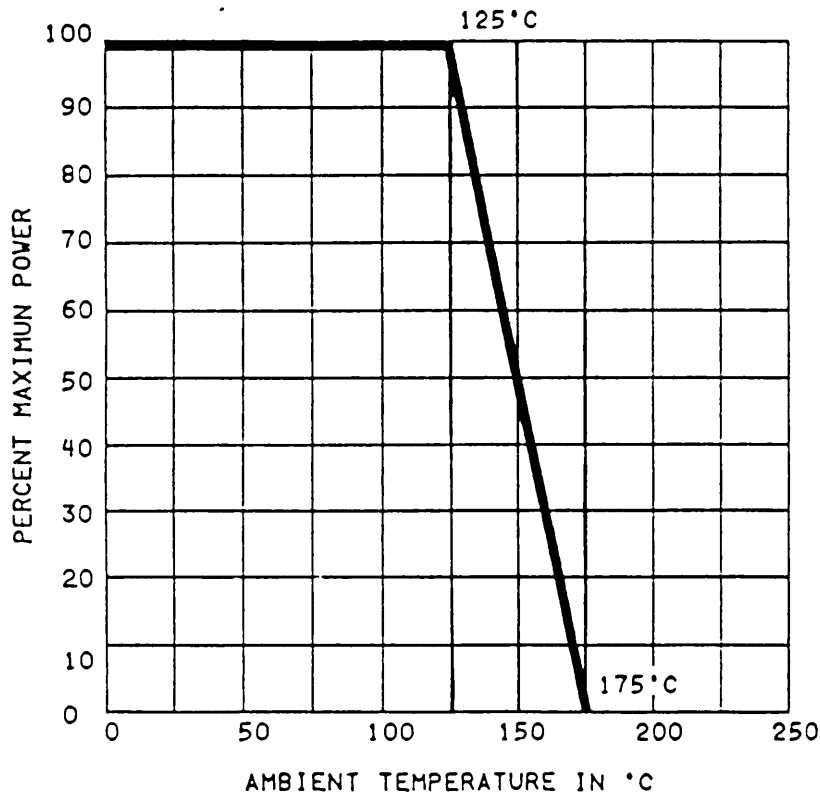

FIGURE 105-1. Derating curve figure 105-1.
2.2 Derating at high temperatures. The power rating is based on operation at +125°C. However, when a resistor is to be used in a circuit where the surrounding temperature is higher than +125°C, a correction factor must be applied to the wattage rating so as not to overload the resistor. The correction factor may be taken from the curve shown on figure 105-1.